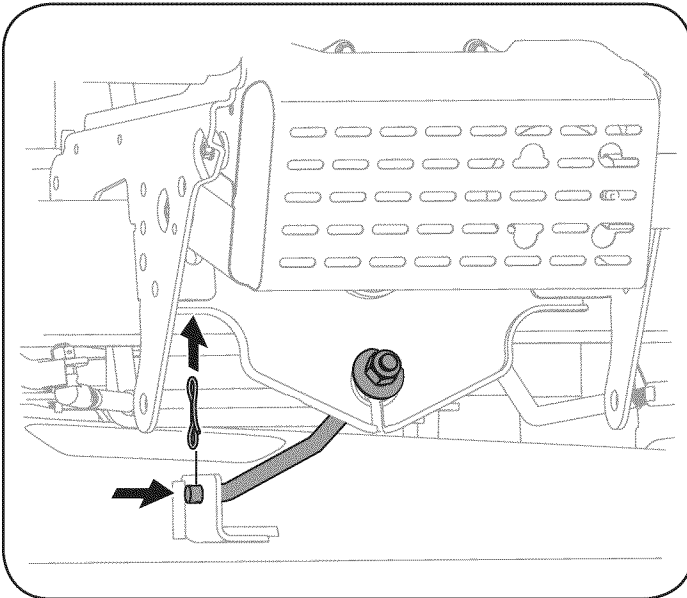

Figure 24
6. Remove the bow-tie cotter pin securing the deck stabilizer rod to the deck. Slide the deck lift rod from the mounting bracket on the deck as shown in Figure 24.